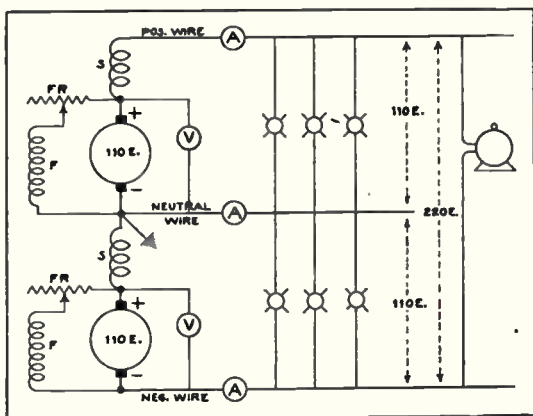

Fig. 14-5
**Three-Wire System.** A direct-current supply system in which the voltage from one wire, called the neutral, to either of the others is half that which exists between the other two wires. For example, the voltage from the neutral to either of the "outside wires" may be 110, and between the two outside wires may be 220. See Fig. 14-5.